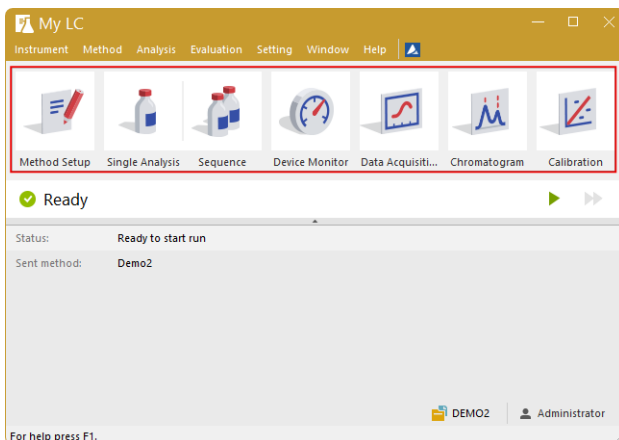

Fig. 12: Instrument window
The *Instrument* window will open. **Fig. 12** on pg. **21**. shows the most important icons in the *Instrument* window. During the tour, we will review all windows belonging to these icons.
- After the parameter setup, you can run the analysis by clicking the **Run** button ⑦. The **Single Analysis** dialog will close now. If you open it again, you will see three additional buttons (**Stop**, **Abort**, **Snapshot**) that will allow you to stop or abort the analysis or take snapshots (see the chapter "**Data Acquisition window**" on pg. 23.).
- In the **Instrument** window look at the **Status line** (see **Fig. 12** on pg. 21.). The acquisition is now signaled by the **RUNNING** state and the actual run time is shown there.
- To see the data acquisition in process and control it if necessary, click the **Data Acquisition**  icon (see **Fig. 12** on pg. 21.) to open the **Data Acquisition** window.
- Depending on your Instrument's configuration, one or more signals may be displayed. The number of detectors (signals) and their names can be seen in the upper right corner of the graph ①.